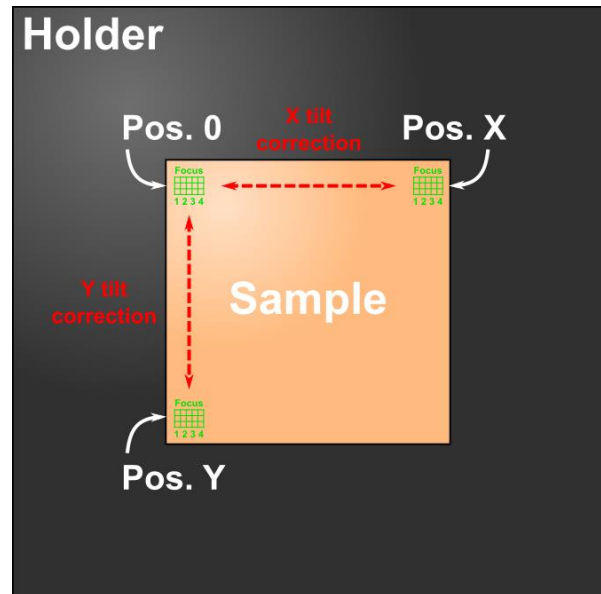

Figure 31 - Tilt correction principle
- Position the top left corner of your sample under the projected light using the **XY stage control interface** (see 4.1.1). This position corresponds to the pivot point of the tilt platform (see Figure 31).
- Move along the Y axis to position the projected image on the bottom left corner of your sample (see Figure 31). Save the position and rename it by Pos. Y.
- From position Pos. 0 move along the X axis to position the projected image on the top right corner of your sample (see Figure 31). Save the position as Pos. X.